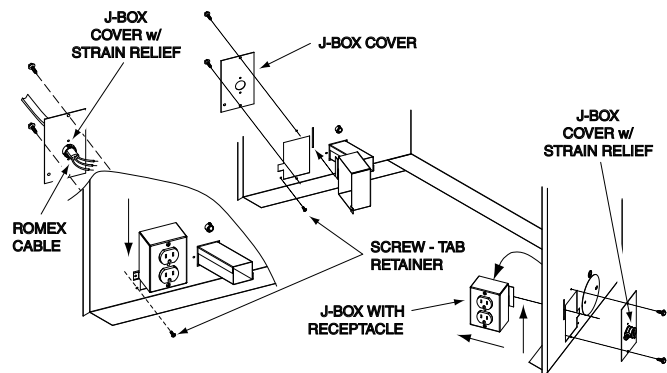

Figure 32 - Relocating Junction Box Receptacle and Electrical Supply Connection
1. Remove the 2 screws and outer cover with strain relief bushing on the right side of the cabinet (see **Figure 32**).
8. With the junction box cover removed, pull the end of 3-wire Romex supply line through the universal strain relief bushing on the cover. (see **Figure 32**).